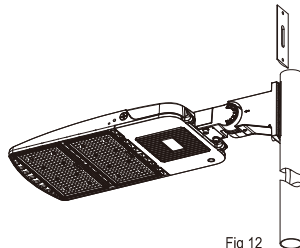

Fig 12
Step 5 : Attention: When install to round pole, Please remove the rubber gasket , as fig 12